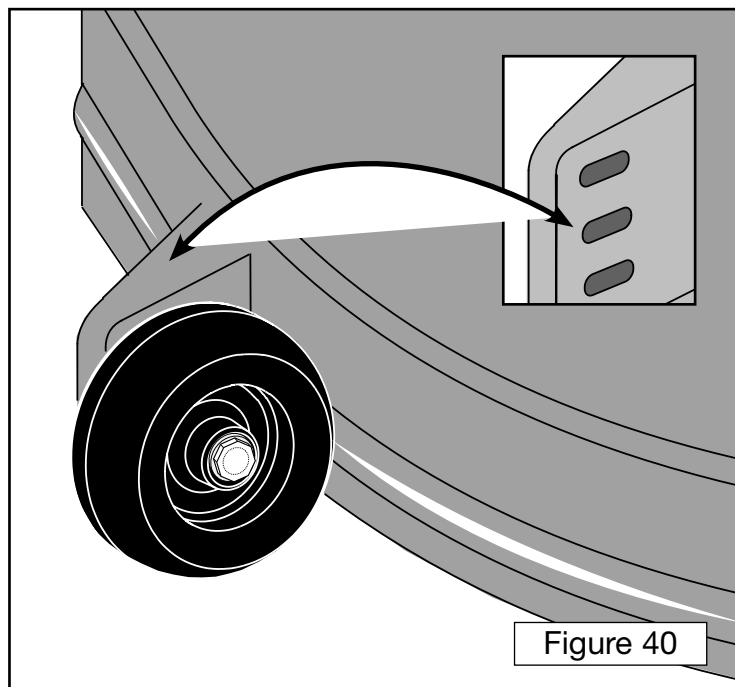

Figure 40
1. Ensure that the Anti-Scalp Wheels are all set to the same height – if not, rectify (Figure 40).